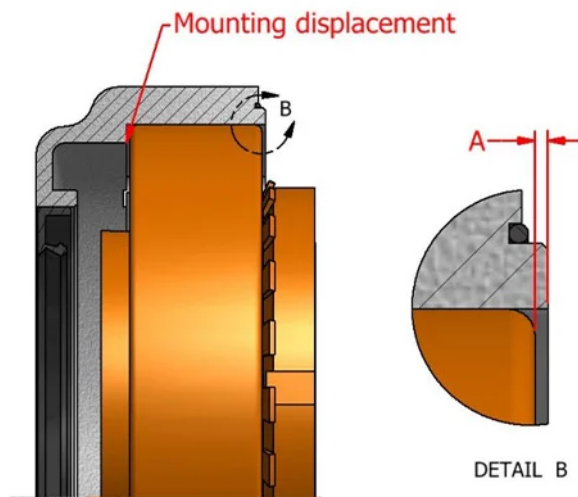

Fig. 2
*Method 2:* In case you want highly accurate axial positioning on the shaft, position only the bearing on the fixed side in the casing. As shown in figure 2, the position of the outer edge of the bearing race is not exactly level with the outer edge of the bearing housing after tightening the bearing adapter sleeve. This difference is indicated by A in figure 2 and the table shows the recommended values for A in mm depending on the diameter of the shaft.